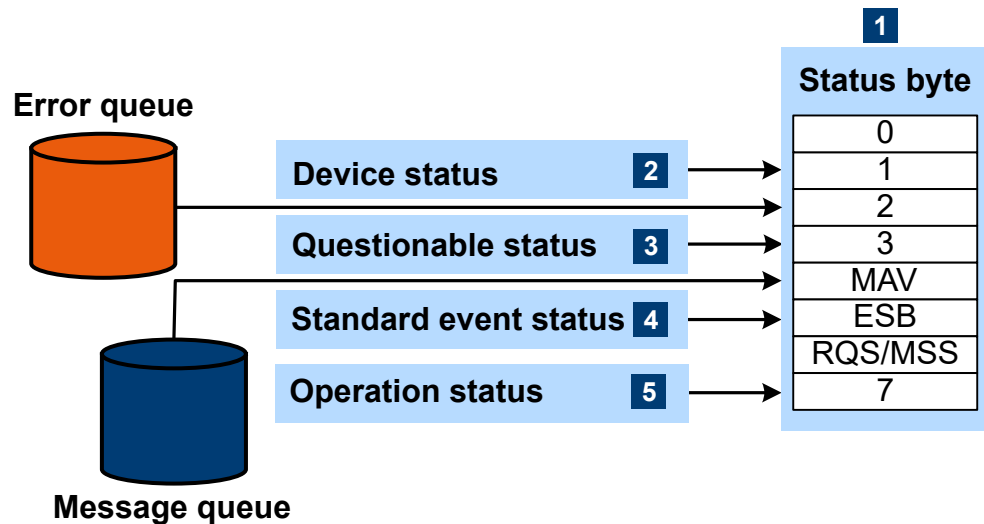

Figure 13-1: Status registers overview
Fig.13-1 shows the hierarchical structure of information in the status registers.
- See Figure 13-1.